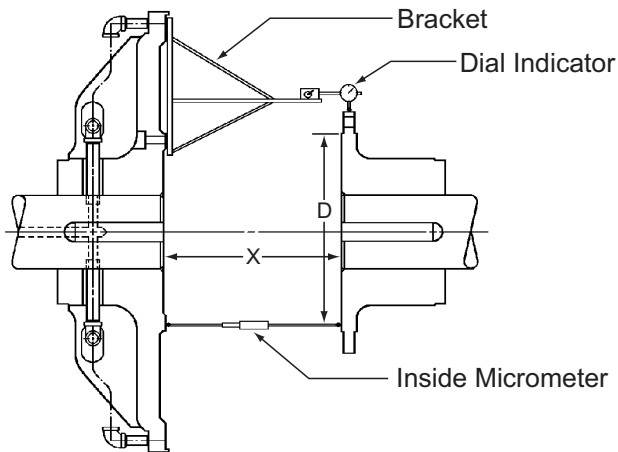

Figure 9
Not to exceed 0.0005 inch per inch (0.0005 mm/mm) diameter at which readings are taken ("D" on Figure 9).
"X" DIMENSIONS (FIG 9)**
2.4.1 Foundations must be set so distance 'X', shown on **Figure 9**, is established. If the clutch is mounted on a shaft having plain bearings, make sure the shaft is centered within the bearings when establishing the "X" dimension. Refer to Table 2 for appropriate "X" dimensions.
2.4.2 Fabricate a rigid bracket for supporting a dial indicator and attach to the spider. See **Figure 9**.